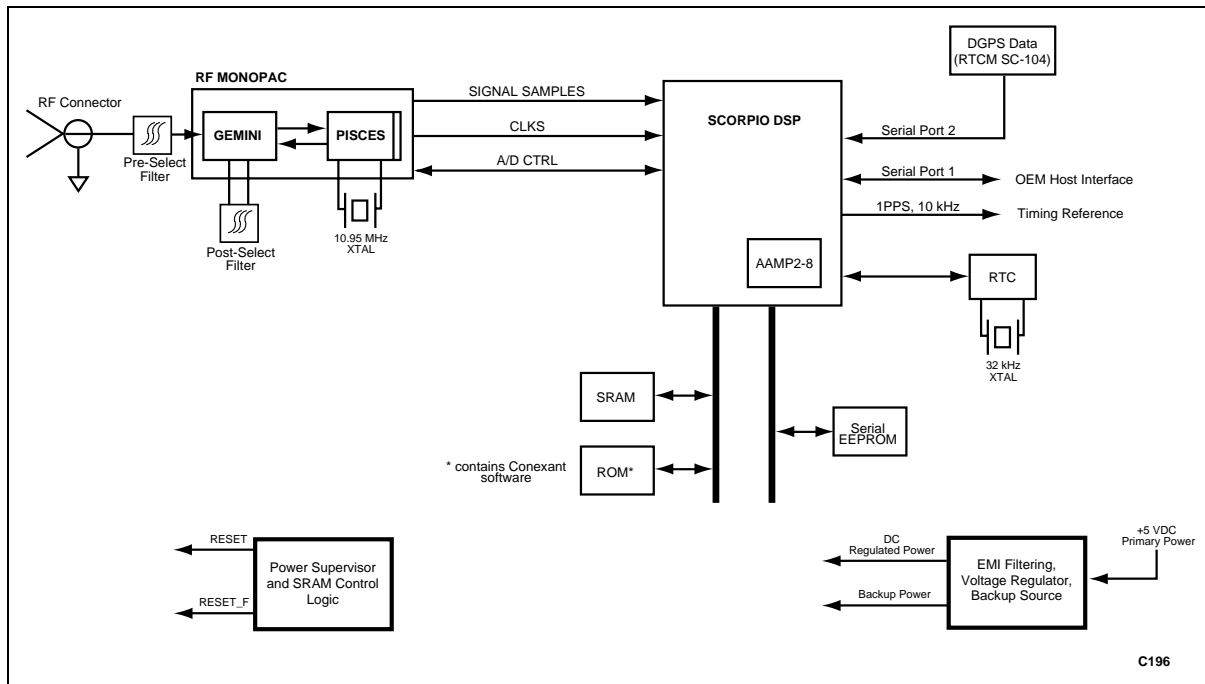

Figure 3. Jupiter Receiver Architecture
**Receiver Architecture.** The functional architecture of the Jupiter receiver is shown in Figure 3. The receiver design is based on the Conexant Zodiac chip set: the Gemini/Pisces Monopac™ and the Scorpio DSP, which contain the required GPS functionality. The Gemini/Pisces Monopac™ contains all the RF downconversion and amplification circuitry, and presents the In-Phase (I) and Quadrature-Phase (Q) Intermediate Frequency (IF) sampled data to the Scorpio device. The Scorpio device contains an integral microprocessor and all the required GPS-specific signal processing hardware. Memory and other external supporting components configure the receiver into a complete navigation system.